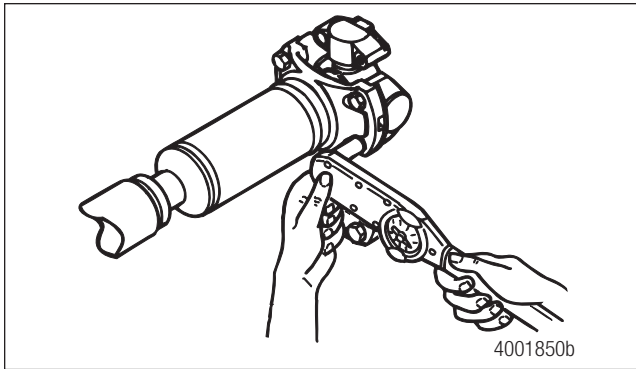

Figure 7.2
2. Install new capscrews and lock washers. Figure 7.2. Refer to Table C: Replacement Parts and Torque Specifications.
4. Use a torque wrench to alternately tighten the capscrews to correct specifications. Figure 7.2. Refer to Table C: Replacement Parts and Torque Specifications.
5. Use a torque wrench to alternately tighten the capscrews to Meritor's driveline torque specifications. Refer to Table C: Replacement Parts and Torque Specifications and Figure 7.2.